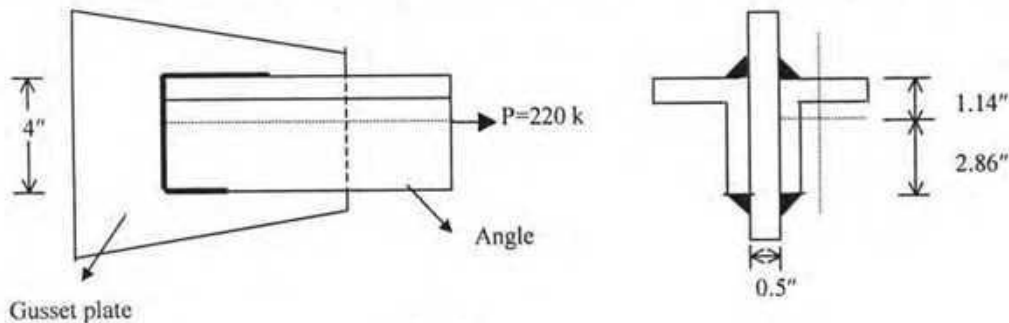

Fig. 12
Q13. Two $4 \times 4 \times 3/8$ in. angles, which are to be welded to a gusset plate of thickness 0.5 inch carries a load of 220 kips applied along its centroidal axis as shown in Fig.12. Determine the lengths of fillet welds applied along the toe, heel and entire length of the end of the angle for a non-eccentric connection. Assume that allowable shearing stress through the throat of each weld is 21 ksi . (10)